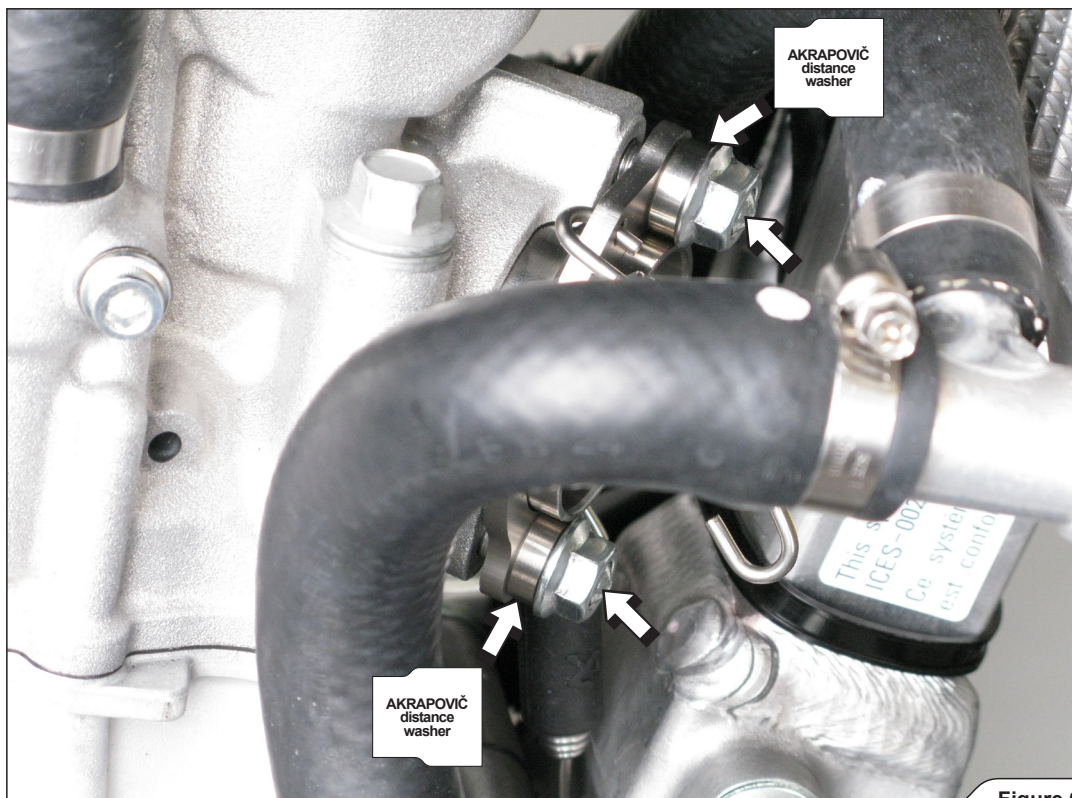

Figure 6
2. Install the assembled sleeve, flange and springs onto the motorcycle. Use Akrapovič distance washers and hand tighten two marked stock nuts (Figure 6).